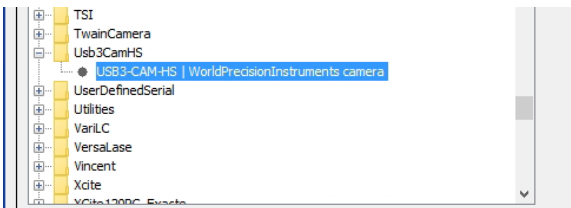
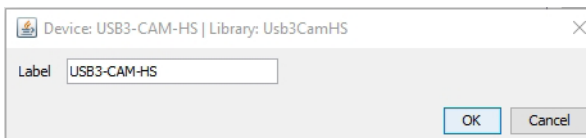

Fig. 13–Select the *USB3CamHS* folder to detect your camera device.
Fig. 14–Label pop-up to indicate the selected camera device.
- Press **Add** so that the pop-up window with the selected device appears (Fig. 13), then press **OK**. The selected camera device will be installed for use (Fig. 14). Click **Finish** to save the configuration.